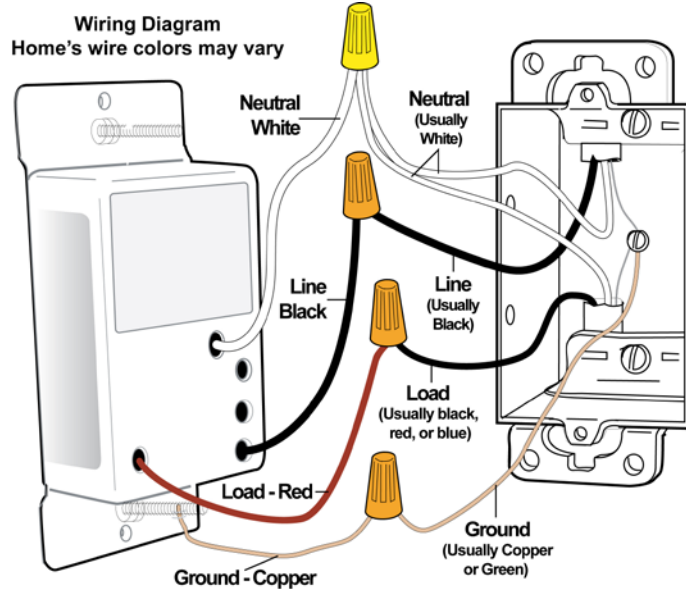

Fig 1
- 9) Connect wires as per Table A/ Fig. 1 (confirm firm attachment with no exposed wire)